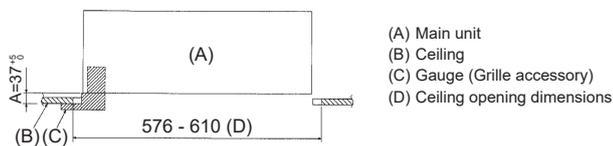

Fig. 3-6
- Make sure that A is performed within 37-42 mm. Damage could result by failing to adhere to this range. (Fig. 3-6)